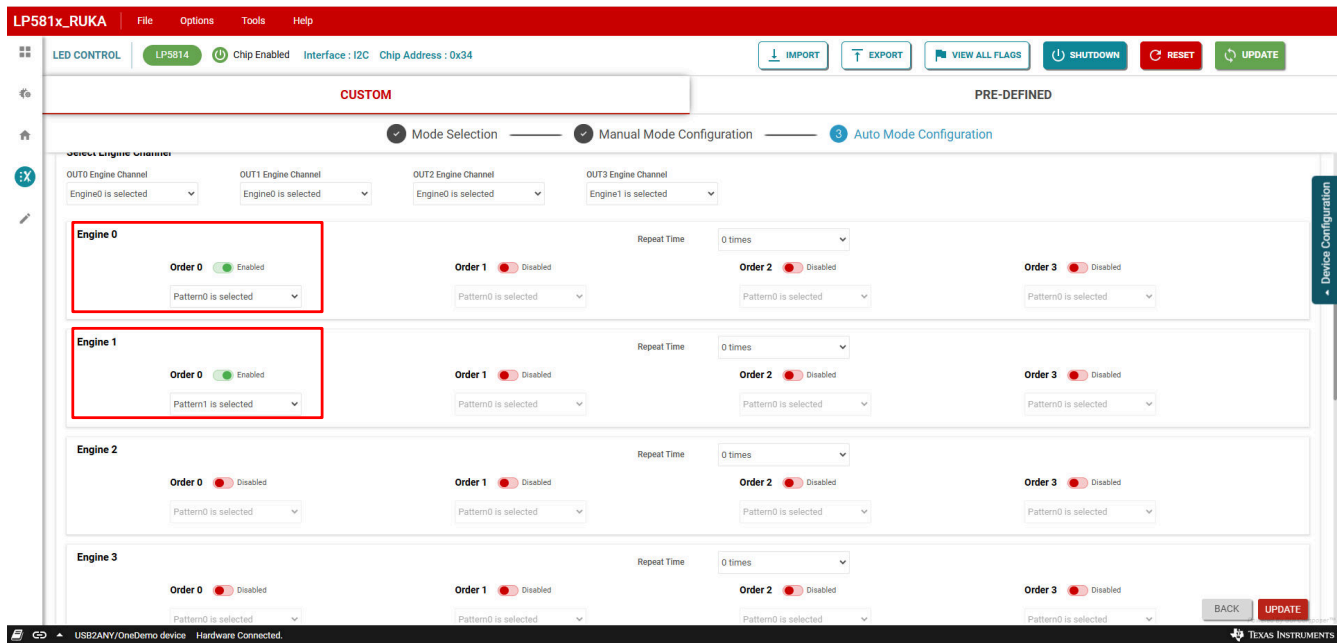

Figure 3-18. Engine Order Enable
- Enable engine 0 order 0 through clicking the toggle button besides the *Order 0* under *Engine 0* control panel. Select pattern 0 for engine 0 order 0 through selecting the *Pattern0 is selected* item from the pulldown menu under the *Order 0* as shown in Figure 3-18.
Enable engine 1 order 0 through clicking the toggle button besides the *Order 0* under *Engine 1* control panel. Select pattern 1 for engine 1 order 0 through selecting the *Pattern1 is selected* item from the pulldown menu under the *Order 0* as shown in Figure 3-18.